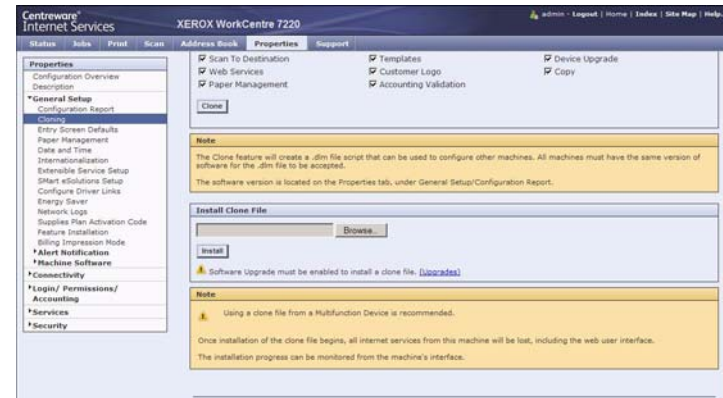

Figure 2 Important Notes!
4. Scroll down the page to see critical information about the cloning process (Figure 2). Click the **View Feature Details** link to get a list of data that is backed up and/or restored using the Cloning Feature.
4. Scroll to the bottom of the page (Figure 2).